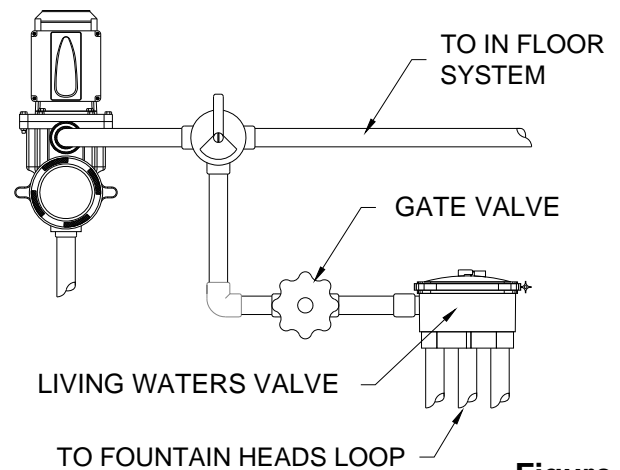

Figure 6
2. It is necessary for a gate valve to be installed between the 3-way valve and the rotating valve, so that fountain water heights may be adjusted. (See Figure 6)